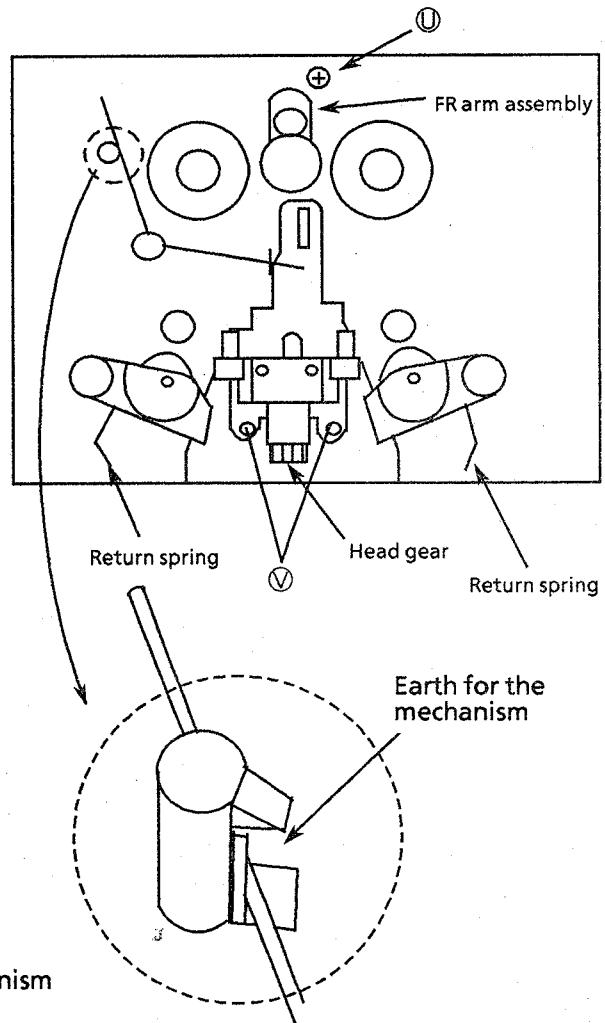

Fig. 14 Front view of the cassette mechanism
1. Release the return springs from the hooks (Fig. 14).
3. Remove the fr arm assembly (Fig. 14).
4. Remove the screws ① fixing the motor.